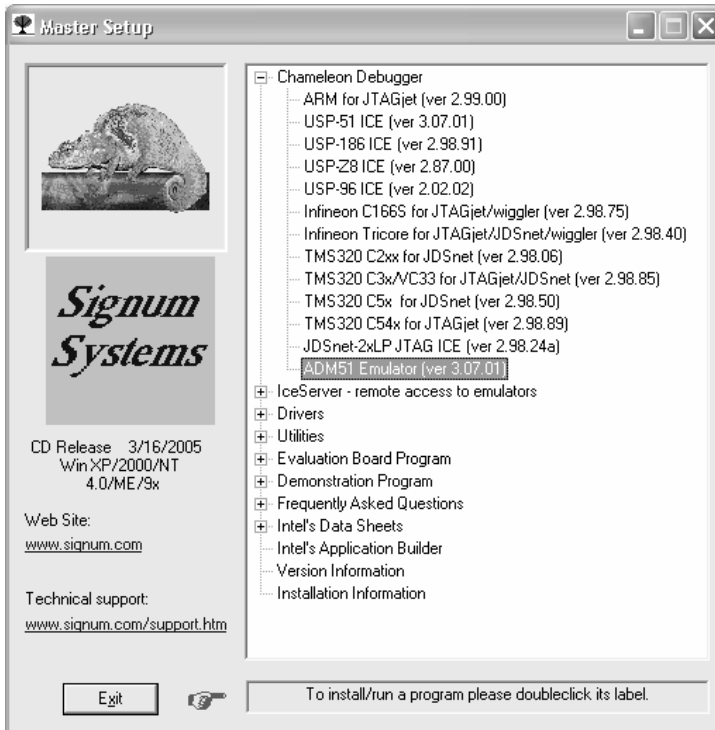

FIGURE 1 Chameleon Master Setup window.
1. Insert the Signum Systems *Development Tools for Microsoft Windows* CD into your CD-ROM drive. From the Master Setup window, select Chameleon Debugger and double-click on ADM51 Emulator, as shown in Figure 1.